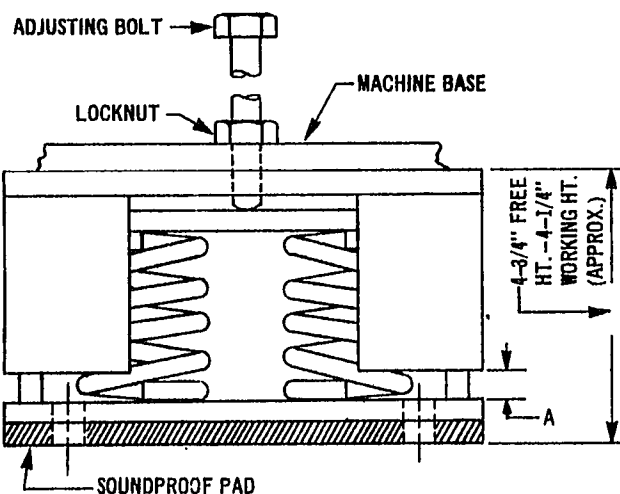

FIG. 7 ISOLATOR FOR KS-15884, KS-15890 AND KS-15929 ENGINE-ALTERNATORS
11.1 Check mounting area slope, Paragraph 5, and remove floor coverings, Paragraph 6, before proceeding. Vibration isolator locations are shown on Drawing H269-352. The isolator dimensions J and K on the drawing are 3" and 8-1/4", respectively. However, the base plate on these isolators extends 2" over one edge. See Figure 7 for a sketch of this isolator.